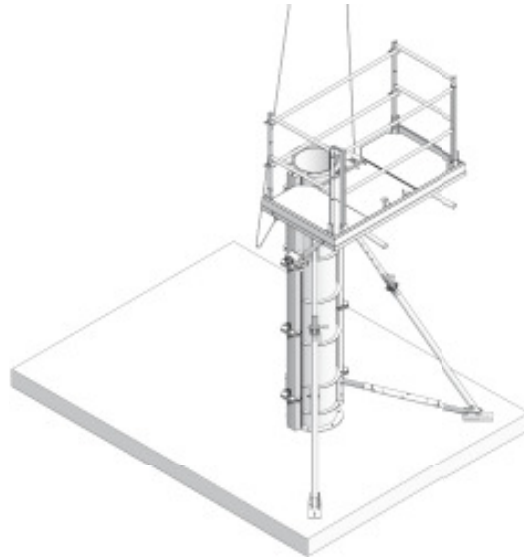

Fig. 14.1
1. Attach 2-rope crane slings to the second semi-circular column half (the one without the platform and bracing). Tension the crane slings and remove all M assembly locks (Fig. 14.1).